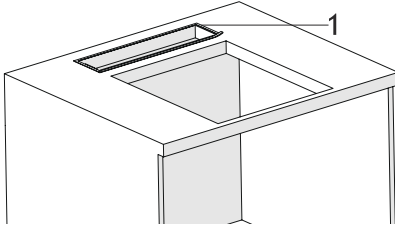

Fig. 12
1. ➤ Attach the supplied sealing gasket around the discharge (Fig. 12).